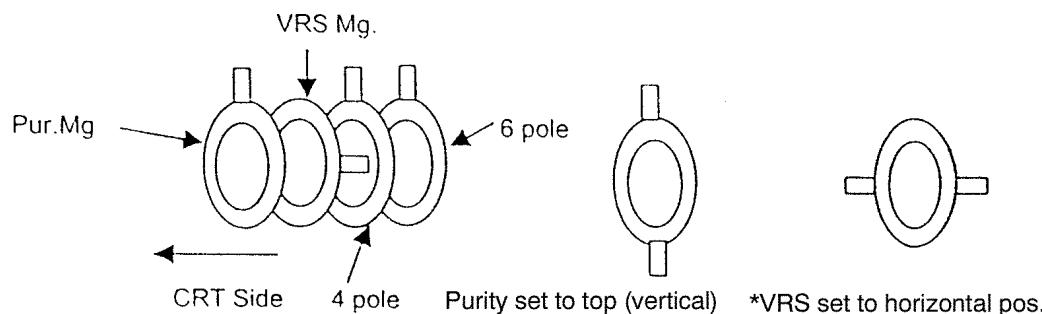

FIG 1.
- Set CY to CRT and set CY magnet primarily (Fig.1)